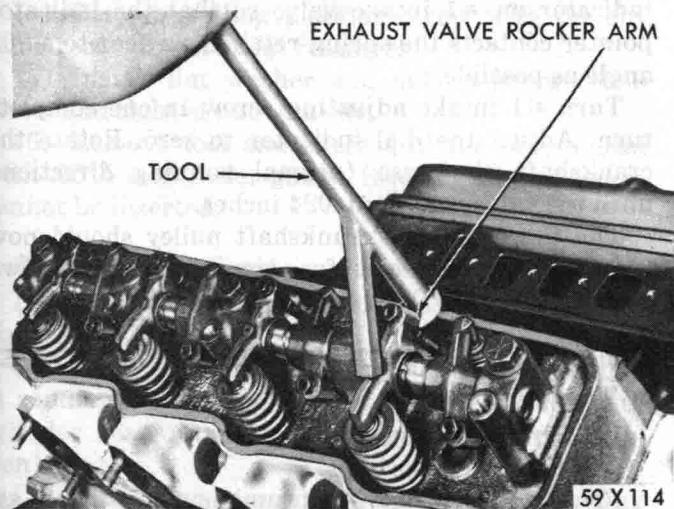

Fig. 3—Compressing Exhaust Valve Spring
(7) Install push rods with small ends in tappets. When using Tool C-3695 (Fig. 3 and 4), rocker arm valve spring compressor, to position large end of push rod under rocker arm, **make certain low point of camshaft lobe is under tappet.**
(8) Install new intake manifold gaskets and seals.
(9) Install intake manifold, with coil and carburetor, tighten manifold to 30 foot-pounds torque.
(10) Using new cylinder head cover gaskets, install covers. Tighten bolts to 40 inch-pounds torque. Install engine ventilating system.
(11) Install spark plugs with new gaskets. Tighten to 30 foot-pounds torque.
(12) Install exhaust manifolds, with new gaskets, tightening to 30 foot-pounds torque.
(13) Connect throttle linkage, install distributor cap and connect cables, coil wires, heat indicator sending unit wire and water hoses.
(14) Install fuel line, alternator and belts. Tighten alternator bracket bolts to 50 foot-pounds torque and mounting nut to 20 foot-pounds torque. Tighten adjusting strap mounting bolt to 30 foot-pounds